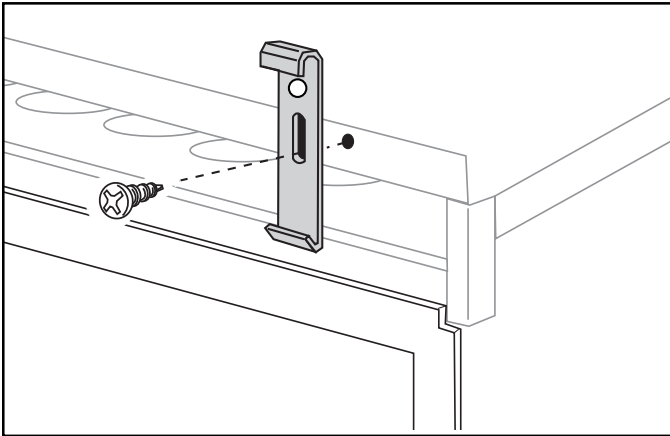

Fig. 20. Hanging Bracket alignment.
- 1) Install the hanging brackets, as per Fig. 20.
- 1) Install the hanging brackets, as per Fig. 20